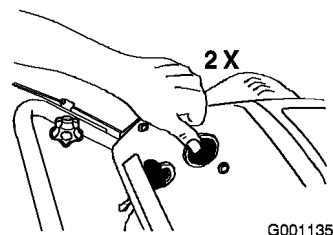

Figure 15
- Firmly push in the primer 2 times with your thumb, holding the primer in for a second before releasing it each time (Figure 15).